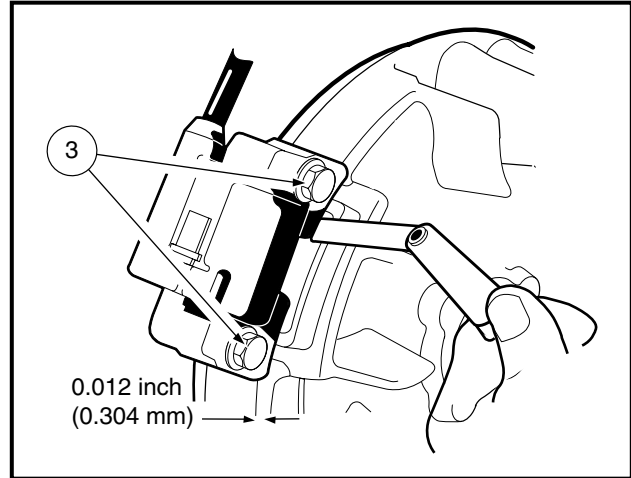

Figure 13-8 Adjust Ignition Coil Air Gap
2. Tighten the two bolts (3) and use a bronze feeler gauge to adjust the ignition coil air gap to 0.012 inch (0.304 mm) (Figure 13-8, Page 13-7).